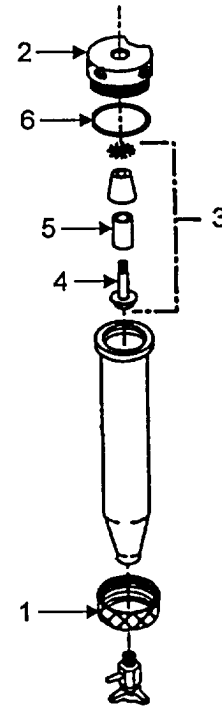

FIGURE 3-12. INTERMEDIATE FILTER
1. Removing the Sintered Filter. Refer to figure 3-12.
b. Unscrew threaded collar (1). Remove filter head (2) and sintered filter assembly (3). Remove the center screw (4) to remove the filter element (5). Inspect O-ring (6) for damage. Replace if necessary.
2. Cleaning the Sintered Filter (5).